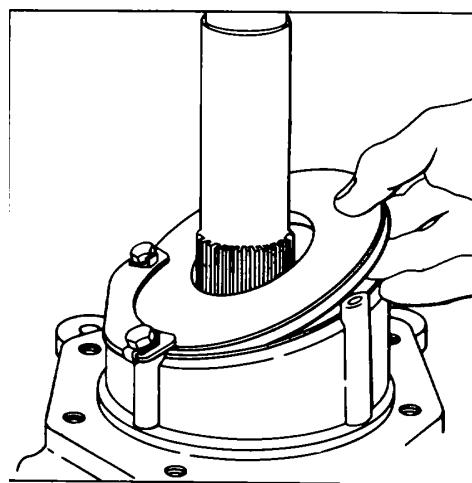

Figure 203.
11. Lift our wear plate (23). See Fig. 203.